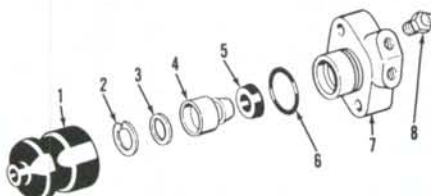

Fig. 227—Exploded view of wheel cylinder showing component parts and their relative positions.
With wheel cylinder removed, remove rubber boot (1—Fig. 227), snap ring (2), washer (3) and piston (4). Remove seal (5) from piston and remove "O" ring (6) from cylinder.